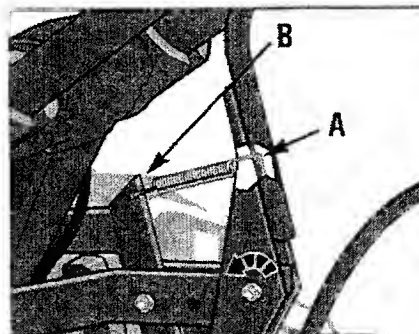

Figure 2-11. Install clutch pawl spring.
E. Look at both ends on the clutch pawl spring. One hook end has a wider opening. Insert the end with the wider opening fully into the small hole in the lever (hook pointing down). See A, Figure 2-11.
F. Tilt the lever fully up and insert the other end of the spring in the hole in the top of the long steel link (B, Figure 2-11). A pliers may help. Do not overstretch the spring. (Note: push handlebars to the right for extra clearance.)